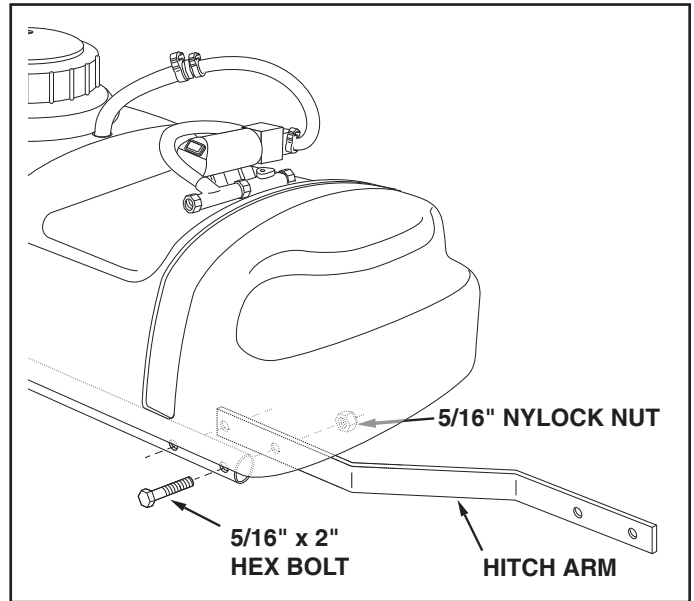
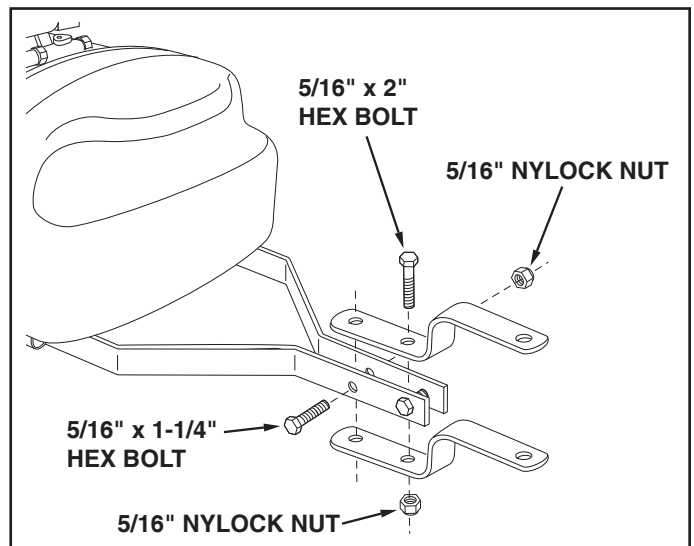

FIGURE 2
FIGURE 3
4. Assemble a hitch arm to the inside of a frame tube underneath the tank. Use two 5/16" x 2" hex bolts and 5/16" nylock nuts as shown in figure 2. **Do not tighten yet.** Repeat for other side.
5. Fasten the ends of the hitch arms together using two 5/16" x 1-1/4" hex bolts and 5/16" nylock nuts. **Do not tighten yet.** See figure 3.
6. Assemble the hitch brackets to the hitch arms using two 5/16" x 2" hex bolts and 5/16" nylock nuts. Position each bolt behind one of the cross bolts in the hitch arms. **Do not tighten yet.** See figure 3.
- At this time **tighten all bolts** starting with the bolts in figure 2, then the bolts in figure 3.